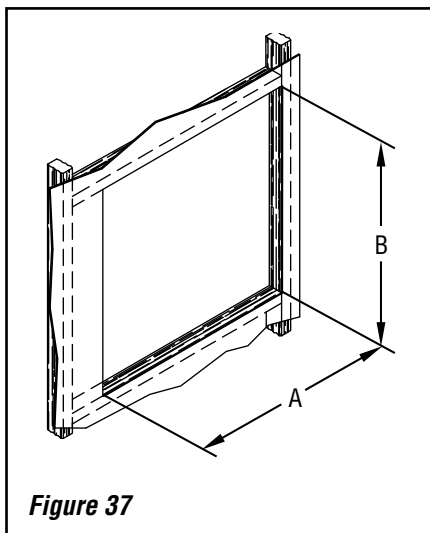

Figure 37
2. Locate the area where the chimney section is to penetrate the vertical wall studs. Cut and frame an opening so that the flue is centered between the vertical wall studs. Frame opening per **Figure 37** and **Table 4**.